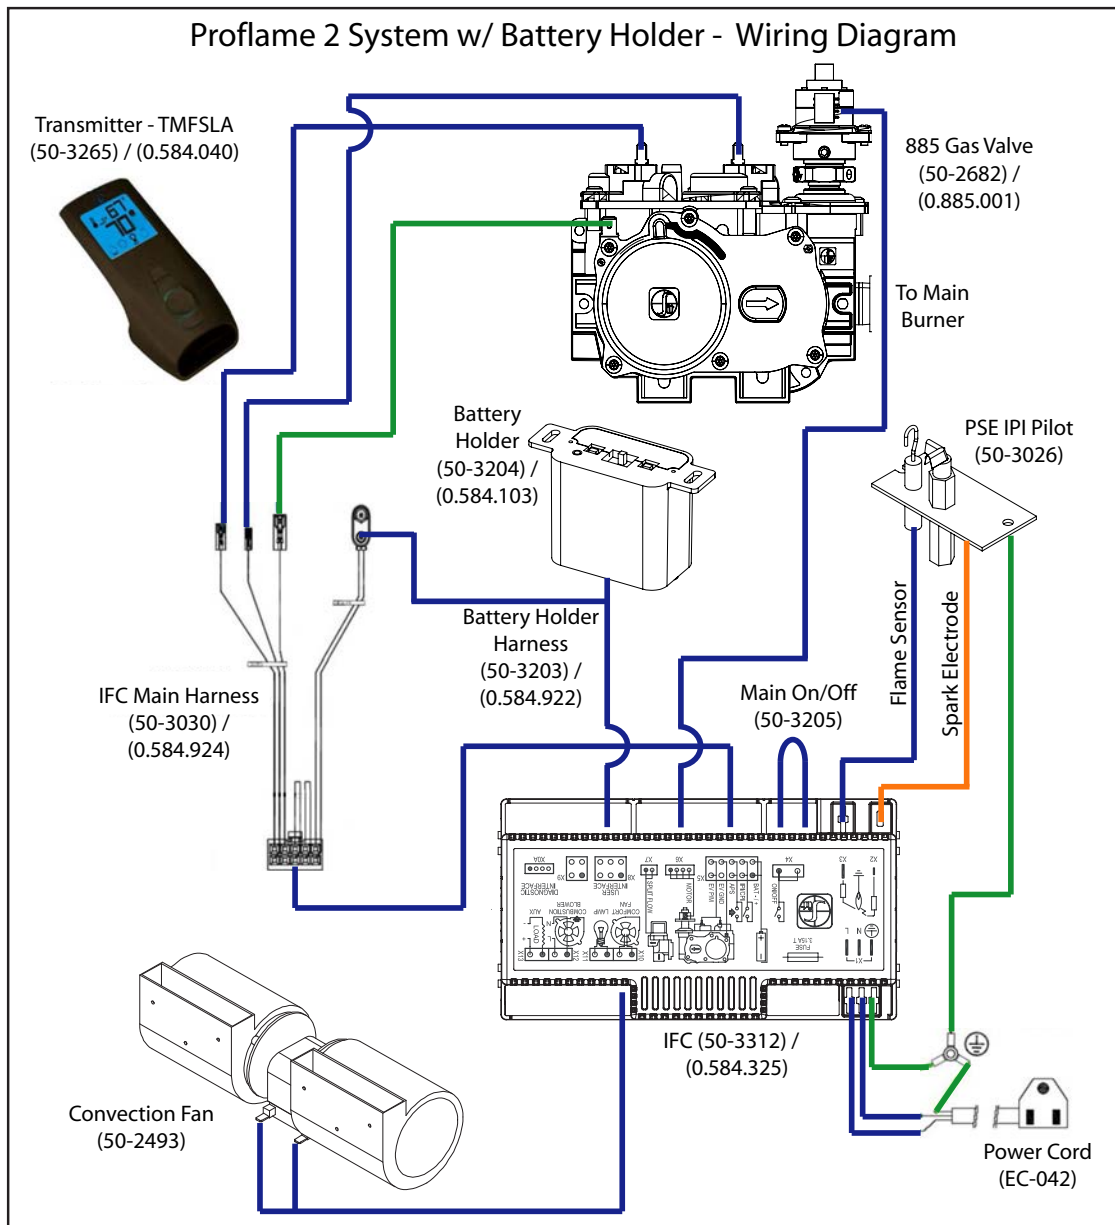

Figure 33: Wiring Diagram.
- A 3/8" 45° flared fitting and flex connector are supplied with the unit (see Figures 33 and 34). Consult the local authorities for local codes or use the CAN/CGA B149 (1 or 2) installation code in Canada. In the US, gas installations follow either local codes or the current edition of the National Fuel Gas Code ANSI Z223.1.